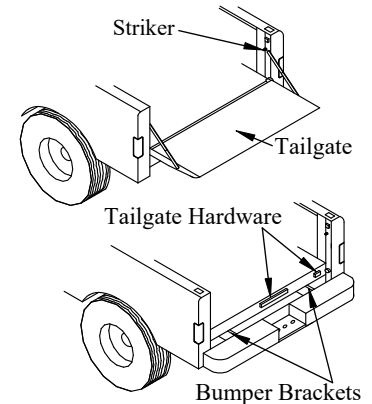

Figure 5: Remove Hardware.
1. **Remove** the tailgate (Figure 5).
2. **Remove** the tailgate strikers (Figure 5).
3. **Remove** any other tailgate hardware that is mounted to the rear of the bed (Figure 5).